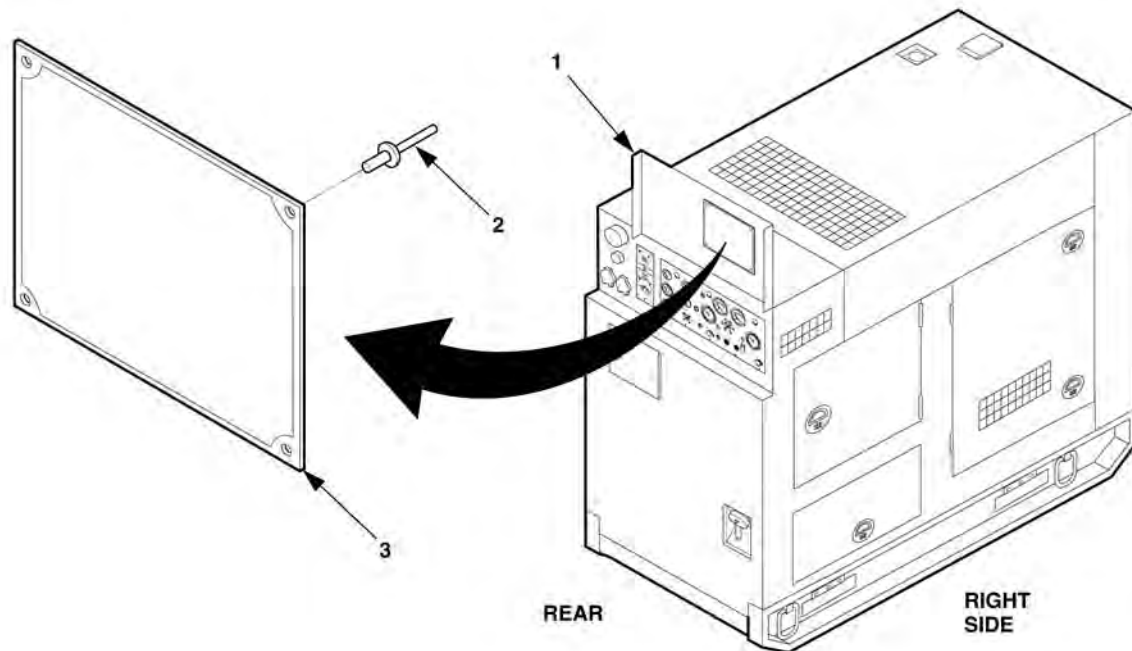

Figure 4-30. Function Codes Plate Maintenance.
1. Lift generator control panel cover (1), Figure 4-30.
2. Remove four rivets (2) and plate (3).
3. Install new code plate (3) and four rivets (2).
4. Close control panel cover (1).